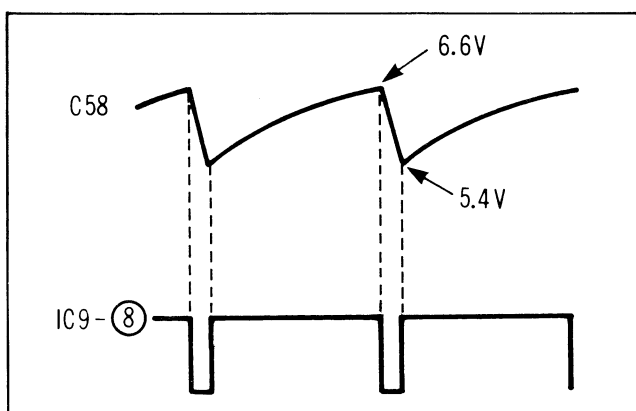

Figure 2-22
When the charged voltage reaches 6.6V, the output pin (8) goes low. Then C58 starts to discharge through R240 until the voltage becomes 5.4 V, at which point the output reverts to a high. (See Figure 2-22)